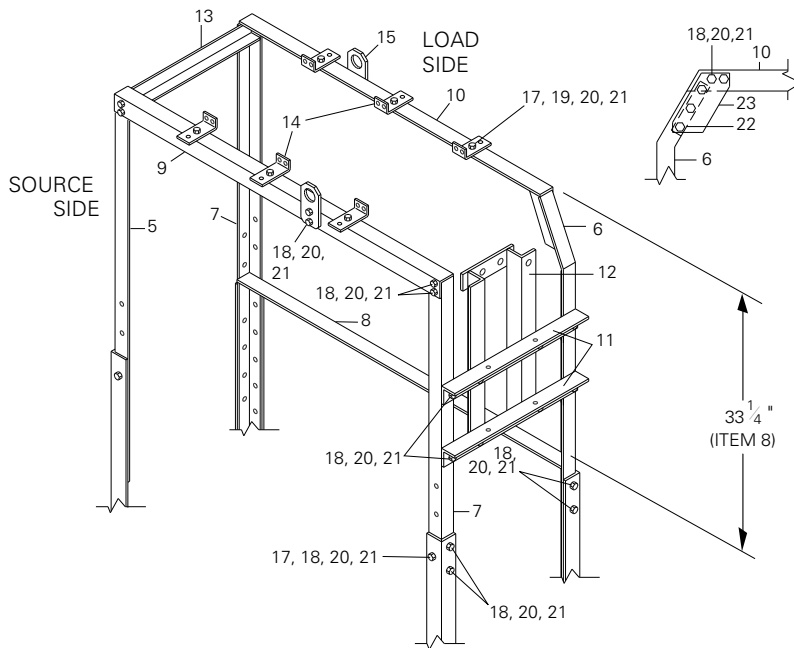

Figure 6. Assembly of top half of Substation Frame (KA89WV1).
Stage 2: Assemble top half (Figure 6) to frame base.
- Mount one of the support angles on the far side (load side of the recloser) at 33-1/4 inches from the top of the frame (Figure 6).
- Using gusset (Item 23) and spacer (Item 22), attach the top support angle (Item 10) to the load side of the frame as shown in the inset of Figure 6.
Refer to Figure 6 and Table 3.
- Install the recloser mounting brackets (Item 14, Figure 6) after the recloser's current-transformer housings have cleared the top support angles (Items 9 and 10, Figure 6).
- Fasten the stud terminal end of the cable to the spool with the previously removed hex nut and attach the loop end of the cable to the remaining pin on the hoist supports. Refer to Figure 6, Items 12 and 13.